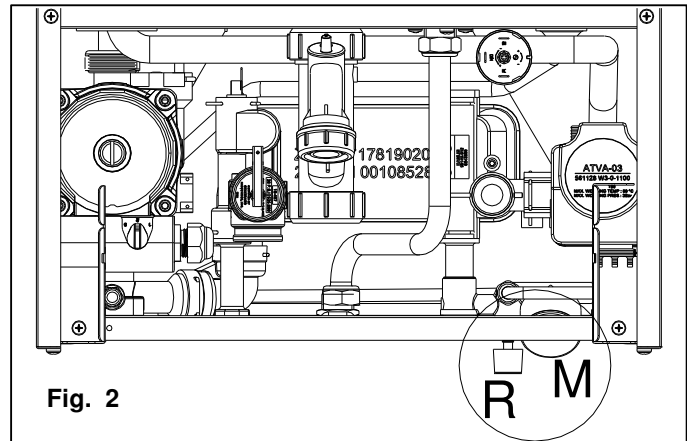

Fig. 2
The water pressure in the central heating circuit must be checked during the entire period of operation of the water heater. In this respect, the reading on the pressure gauge **M** (fig. 2), located on the lower part of the water heater, must not be less than 1 bar.
To bring the system back up to pressure, open the external filling tap **R** (fig.2) and use the pressure gauge **M** (fig. 2) to check that the system pressure reaches 1 bar and that the code H2O lights up.
- Check the water pressure in the central heating circuit. The reading on the pressure gauge **M** (see fig. 2), located on the lower part of the water heater, must not be less than 1 bar.